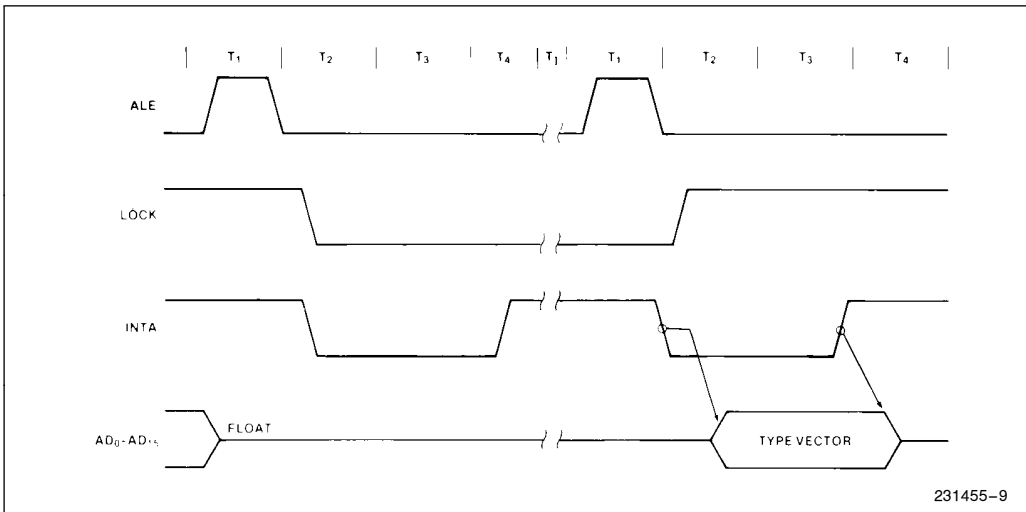

Figure 6. Interrupt Acknowledge Sequence
During the response sequence (Figure 6) the processor executes two successive (back-to-back) interrupt acknowledge cycles. The 8086 emits the LOCK signal from T₂ of the first bus cycle until T₂ of the second. A local bus "hold" request will not be honored until the end of the second bus cycle. In the second bus cycle a byte is fetched from the external interrupt system (e.g., 8259A PIC) which identifies the source (type) of the interrupt. This byte is multiplied by four and used as a pointer into the interrupt vector lookup table. An INTR signal left HIGH will be continually responded to within the limitations of the enable bit and sample period. The INTERRUPT RETURN instruction includes a FLAGS pop which returns the status of the original interrupt enable bit when it restores the FLAGS.
The basic difference between the interrupt acknowledge cycle and a read cycle is that the interrupt acknowledge signal (INTA) is asserted in place of the read (RD) signal and the address bus is floated. (See Figure 6.) In the second of two successive INTA cycles, a byte of information is read from bus